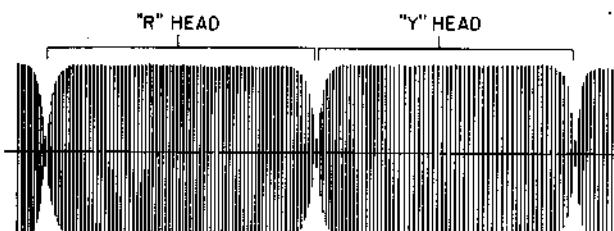

Fig. 11
- Try to maintain an almost square shaped R.F. Envelope as shown in Fig. 11 (Amplitude fluctuation should be very small).